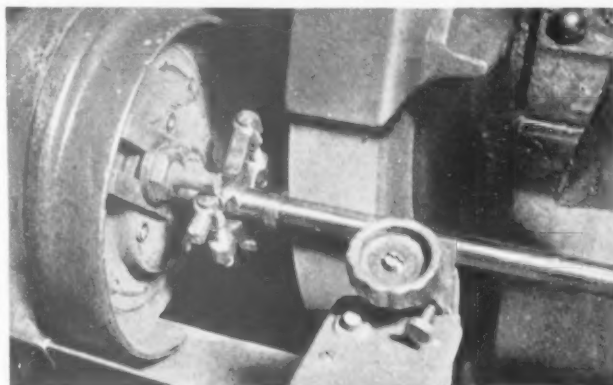

Fig. 4. Plunge cut grind at shoulder.
6. Plunge cut grind the .812" diameter next to the shoulder to within .002" or .003" of the rough grind size. Fig. 4. "Bump" the shoulder with the side of the wheel to just clean.